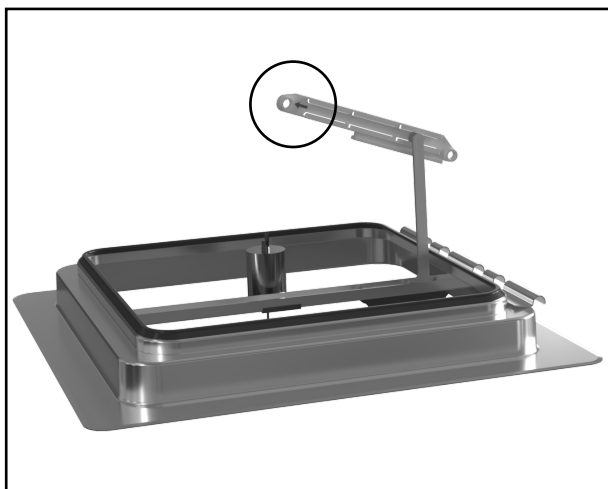

Figure 8
- b. (On the roof). Install the universal cross bar onto the lift arm roller with the indicator arrow pointing rearward/away from the hinge. **(Figure 8)**